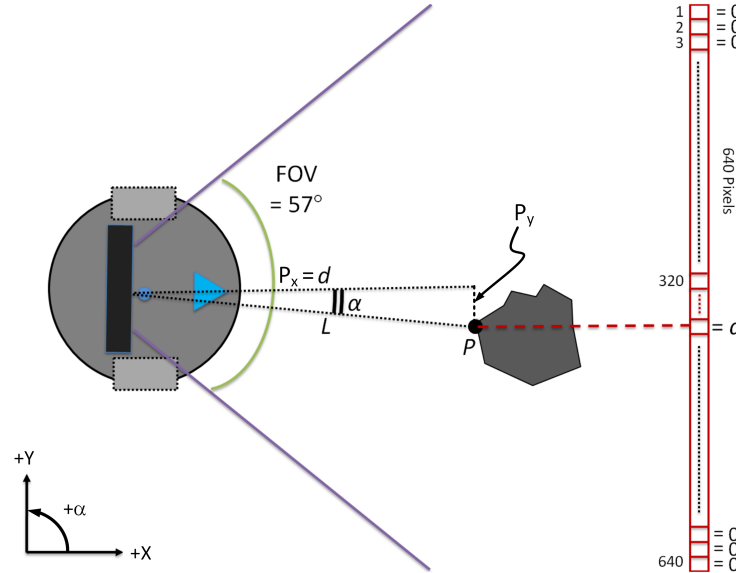

Figure 1.1: Depth data received from Kinect sensor mounted on the Quanser QBot 2e Mobile Platform.
Depth data received from the Kinect sensor in QUARC is represented as a 480×640 depth image. For simplicity, we will only use one row of the depth image data for 2D mapping (each row includes 640 pixels) as illustrated in Figure 1.1.
The value of each pixel represents the distance (in millimeters) from the camera to the object, and should be mapped to the corresponding (x, y) point in the world coordinate frame. For example, assume we want to map the point P , shown in Figure 1.1, represented by the 400^{th} pixel of the centre row to the world coordinate frame. The value of this pixel received from the Kinect sensor is d , which is the distance of the point P to the camera plane. Therefore $P_x = d$ (in millimeters). To calculate P_y the angle α is required as $P_y = L \sin(\alpha) = d \tan(\alpha)$.
The angle α can be calculated based on the distance from the desired point to the centre of the row (in pixels), and the horizontal FOV of the Kinect sensor. In the example shown in Figure 1.1, α can be calculated as follows:
Figure 1.1: Example of the particle filtering algorithm used for localization of the QBot 2e. the green dots represent the initial values for the particles, the red dots show the particles updated in real-time, and the black dot shows odometric data localization
Figure 1.1 shows an example of a particle filtering algorithm for localization of the QBot 2e. Here the green dots represent the initial particles, and the red dots show the particles after the robot moves for a few seconds. The black dot is the location of the data based on pure encoder measurements. It is clear that the particles are converging to the actual location of the robot within the map.
Make sure the robot's surroundings match the map you will be using. Put the QBot 2e in an initial location in the space, making sure the axes of the QBot 2e match those of the map you have loaded as shown in Figure 1.1. Then go through the following steps.
2. Make sure the QBot 2e is facing towards the x axis of the environment map as shown in Figure 1.1. The robot can be anywhere within your mapped region, but make sure it is no closer to any objects than 0.5 m so that you get valid non-zero data from the Kinect sensor. To better understand this concept, try placing the robot about 0.5 m away from the origin of the map (the initial location of the QBot 2e when you created the map). In this case the odometric data will not represent the exact location of the QBot 2e (odometric data is always reset to zero when you start the robot, which is the origin of the map).